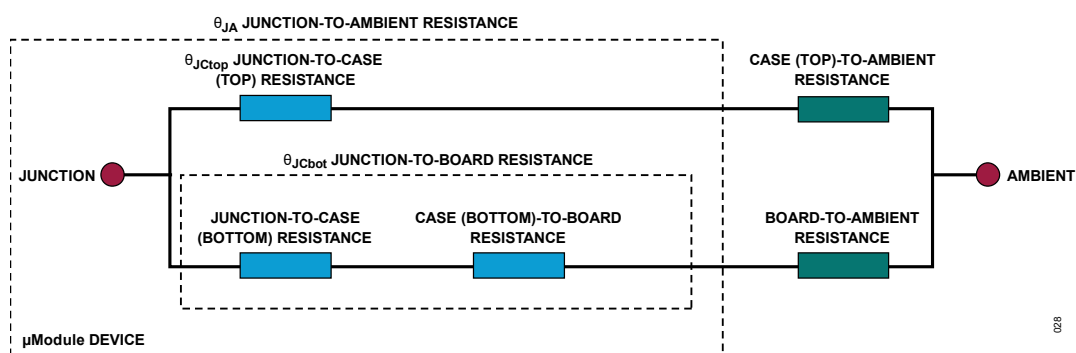

Figure 28. Graphical Representation of the Thermal Resistance between the Device Junction and Ambient, Including JESD5112 Terms
1. θ_{JA} – Thermal resistance from junction to ambient through the bottom of the package case to the board, see Figure 28.
A graphical representation of these thermal resistances is given in Figure 28. The blue resistances are contained within the μ Module regulator, and the green are outside.